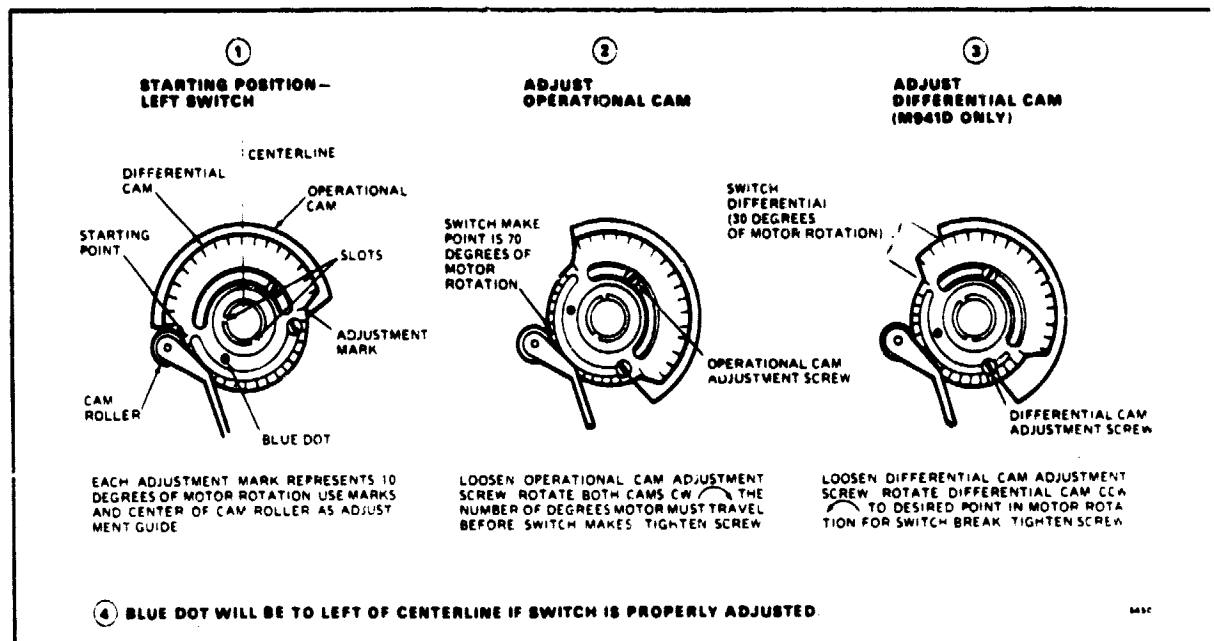

FIG. 10—ADJUST MAKE AND BREAK POINTS OF LEFT AUXILIARY SWITCH.
5. Adjust left switch (inner cam) first. See Fig. 10